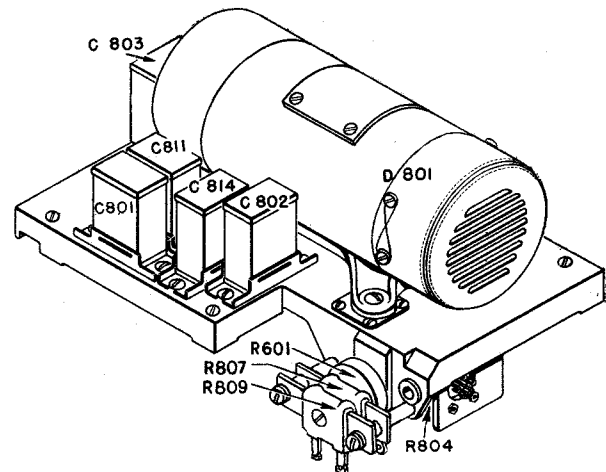

Figure 1-8. Dynamotor Section
b. DYNAMOTOR.—The dynamotor is utilized to develop the high-voltage direct current required for the operation of the receiver, from a 13-volt direct-current source. The unit is mounted on a cast metal base which fits into the chassis frame. The dynamotor and five filter capacitors are mounted on top of the base as shown in Figure 1-8. Resistors, fuses, and two relays are mounted under the base.